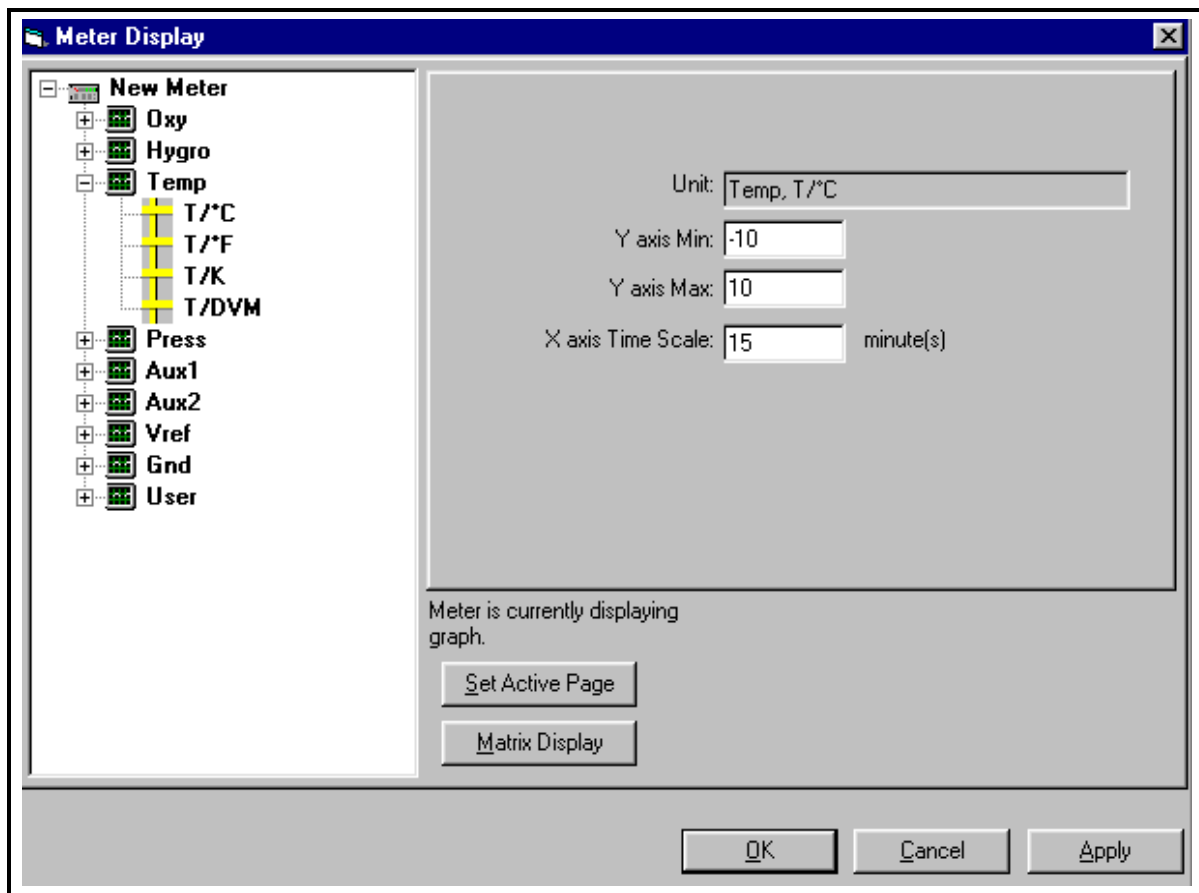

Figure 12: Graph Programming Window
3. Double-click on the desired unit, and enter the parameters for the graph, as shown in Figure 12 below.